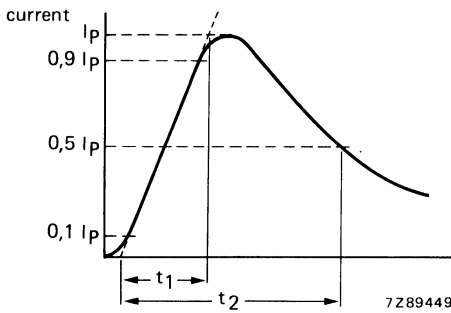

Fig. 5.
6. High energy surges are generally of longer duration. The max. energy for 1 impulse 10/1000  $\mu$ s is given as a reference for long duration impulses. This impulse can be characterized by peak current  $I_p$  and impulse width  $t_2$  (virtual time to half  $I_p$  value, defined in IEC 60-2 section 6), see Fig. 5. If  $V_p$  is the clamping voltage corresponding to  $I_p$ , the energy absorbed in the VDR is determined by equation  $E = K \cdot V_p \cdot I_p \cdot t_2$ ; K depends on  $t_2$ . When  $t_1$  is 8 to 10  $\mu$ s and  $t_2 = 20 \mu$ s,  $K = 1$ ; when  $t_2 = 50 \mu$ s,  $K = 1,2$ ; when  $t_2 = 100 \mu$ s,  $K = 1,3$ ; when  $t_2 = 1000 \mu$ s,  $K = 1,4$ .